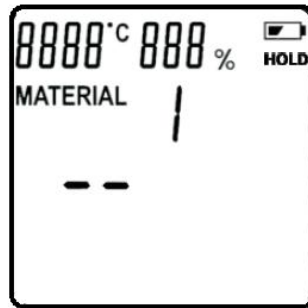

Figure 2-1-1
- Press "On/Off" button to turn on the Meter. The Meter will display as in Figure 2-1-1 and show the current temperature and humidity.